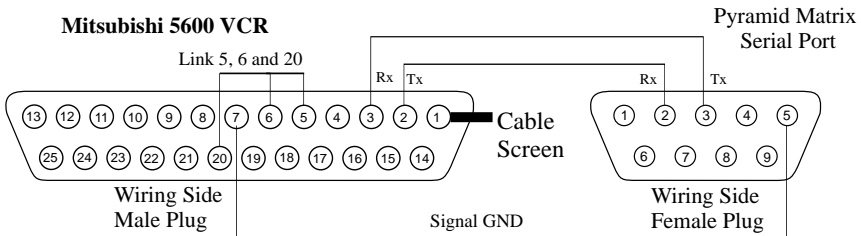

Figure 7. RS232 Lead Wiring
- Connect your Master and Slaves according to figure 7 using the cable provided with each Slave Matrix.